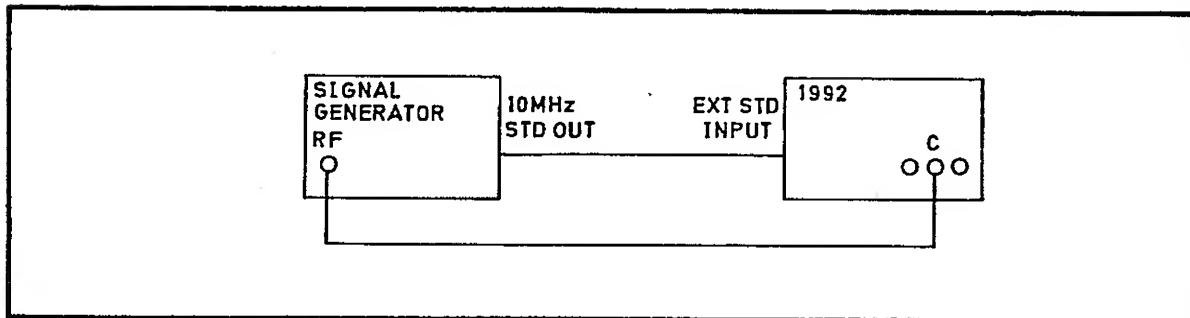

Fig 7.19 Connections for Channel C Sensitivity PVP
51 (1) Connect the test equipment as shown in Fig 7.19.
(2) Select FREQ C.
(3) Set the signal generator output to the frequencies shown in Table 7.8 in turn. Set the 1991/92 resolution to the corresponding value.
(4) At each frequency, determine the minimum input level to the 1991/92 which gives stable counting. Verify that this is not more than the level shown in the table.
(5) Disconnect the test equipment.